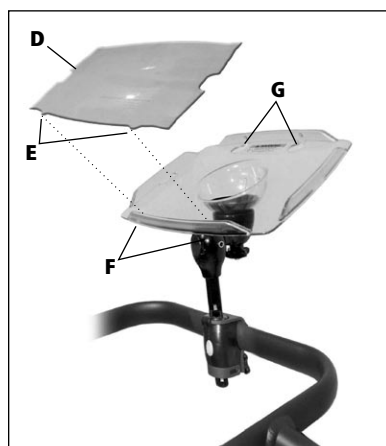

Figure 29
### To remove insert (D) (see Figure 29)
- Press fingers upward through holes in tray (G).
- Re-install insert (D) by placing tabs (E) in slots (F) and pressing down on front edge of insert until it snaps in place.
Forward Facing (see Figure 29)